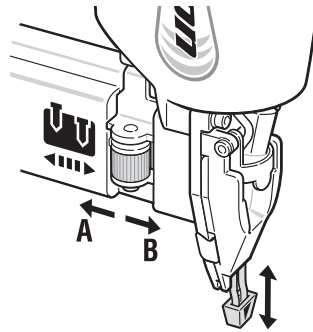

Figure 3
Adjust the depth of nailing by turning the adjustment knob (Figure 3, Item 1) to the left (A) for the shallowest setting and to the right (B) for the deepest setting. To increase the depth of the nails, when the adjustment knob is already set to its lowest setting, increase the air pressure. To decrease the depth of nails when the adjustment knob is already set to its highest setting, decrease the air pressure. Should nails be driven too deep even when the adjustment knob is set at its lowest setting, decrease the air pressure. In general, the brad nailer will have a longer service life when the adjustment knob is set at a lower setting causing less wear and tear on the driving mechanism.